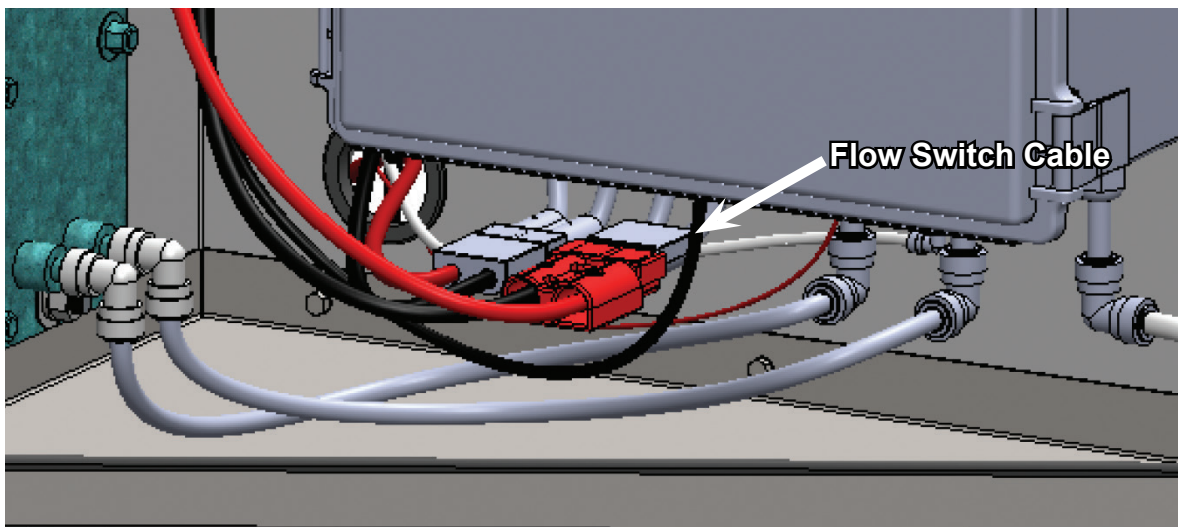

Figure 99. Locate Flow Switch Cable at Bottom of EWS Electrical Box
1. Find the Flow Switch cable located at the bottom of the EWS Electrical Box (see Figure 99).
3. Connect the EWS Cover cable to the Flow Switch cable (see Figure 99).